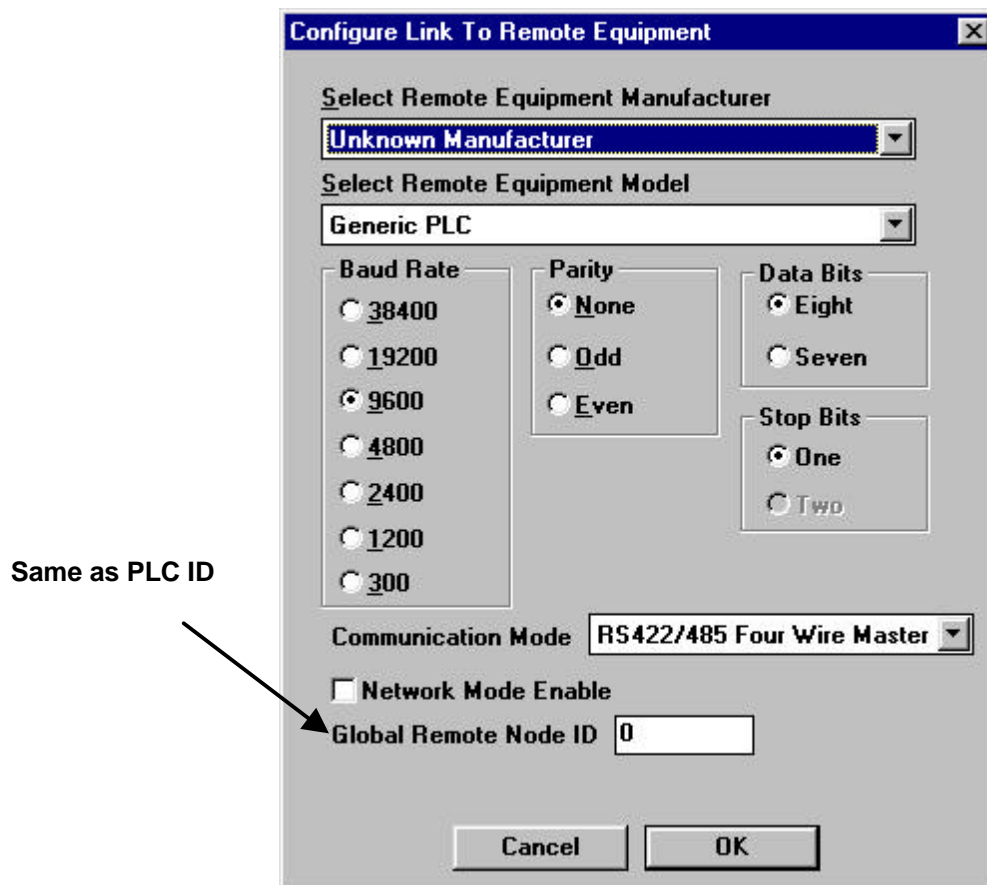

Figure 2.2 – AE Configuration Box
- If the default setting does not match the communications settings of the AE, select the appropriate **Baud Rate**, **Parity**, **Data Bits**, **Stop Bits** and **Communication Mode**. Also, if applicable, enter the appropriate **Target Node ID**. See figure 2.2.